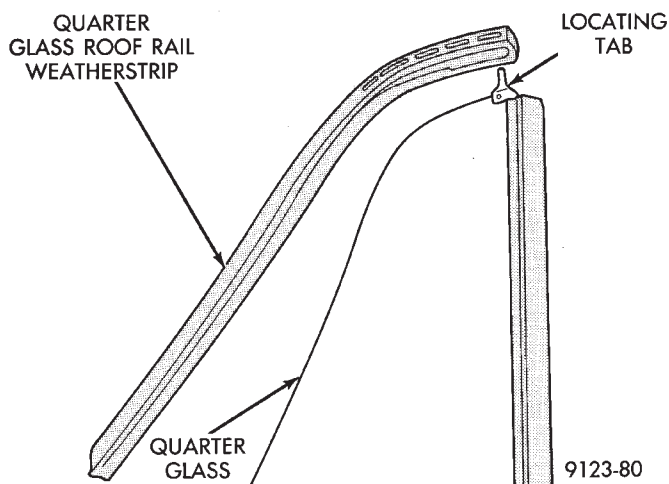

Fig. 15 Quarter Glass Roof Rail Weatherstrip
- (1) Install roof rail weatherstrip on glass (Fig. 15).
- (2) Position glass assembly in convertible top frame opening.
- (3) Install nut and washer to hold upper glass stud to top rail.
- (4) Install lower glass stud plate and plastic insulators through holes at bottom of glass.
- (5) Install plastic insulators and nuts to hold glass and stud plate to spring bracket.
- (6) Before tightening nuts at top and bottom of glass, verify alignment to door glass and top rail weatherstrip.
- (7) Secure all nuts holding glass to vehicle and install quarter trim panel.